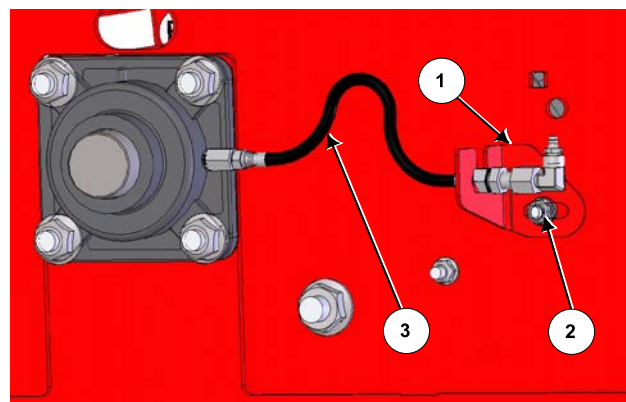

Figure 8: Install the Remote Grease Line
8. Install the remote grease line, see *Figure 8*.
- Install the bracket (1) onto the upper bolt holding the filler panel.
- Attach the grease line (3) to the bracket (1)